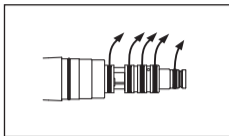

Fig. 43
- 2 Gently remove each O-ring by hand (Fig. 43).